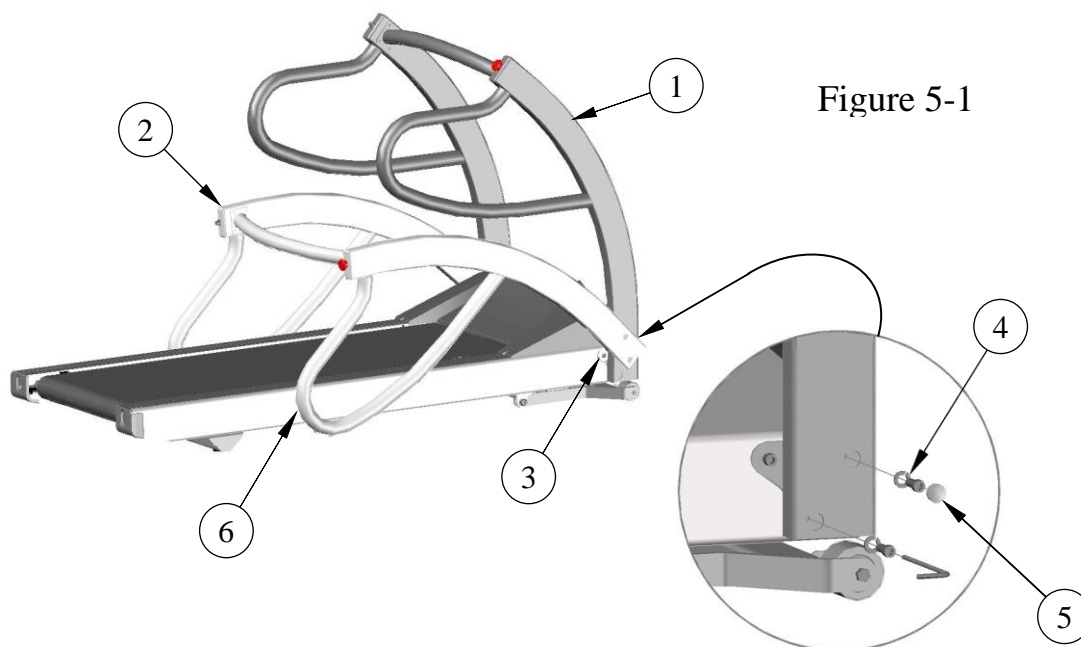

Figure 5-1
1. With the help of a 2nd person, swing the handrail assembly into the operating position and insert (2) 3/8-16 bolts and 3/8 lock washer each side and tighten securely.
2. Install (2) plastic caps each side for a finished look. Figure 5-1